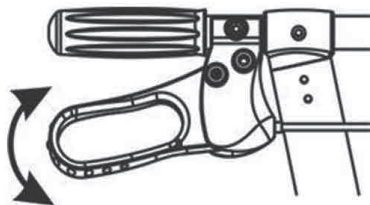

Fig. 1
4. Attach the centre belt (Fig. 1), make sure the belt tension is correct to prevent the rollator from folding accidentally.
1. To release or stop the rollator, pull on the brake lever. Release the brake lever to move again (Fig. 1).